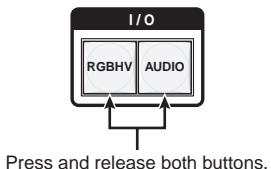

Figure 3-36 — Exit I/O Group mode
7. Press and release the RGBHV (CrossPoint 450 Plus switchers) or Video (MAV Plus switchers) button and the Audio button until the buttons light (figure 3-36). The switcher exits *I/O Group mode*.